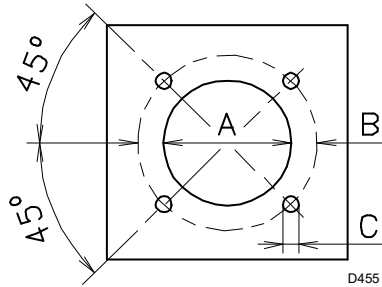

Fig. 7
- the year of manufacture, in cryptographic form (C);
- the serial number (D);
- the electrical input power (E);
- the types of fuel used and the relative supply pressures (F);
- the data of the burner's minimum and maximum output possibilities (G)(see Firing rate).
5.3 Boiler plate (Fig. 7)
Drill the combustion chamber locking plate as shown in (Fig. 7). The position of the threaded holes can be marked using the thermal screen supplied with the burner.